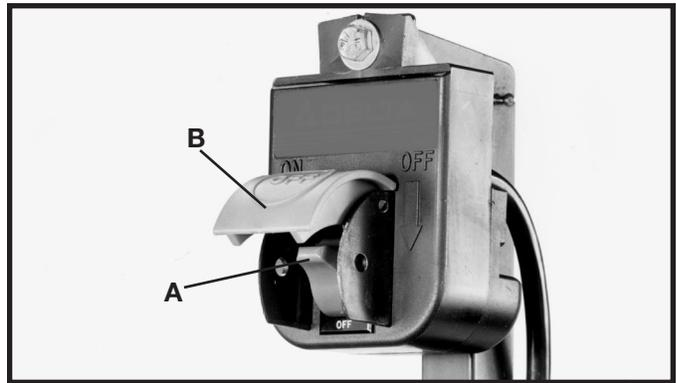

Fig. 31
1. The on/off switch is located underneath the switch shield (B) Fig. 31. To start the jointer, move switch (A) up to the “ON” position.